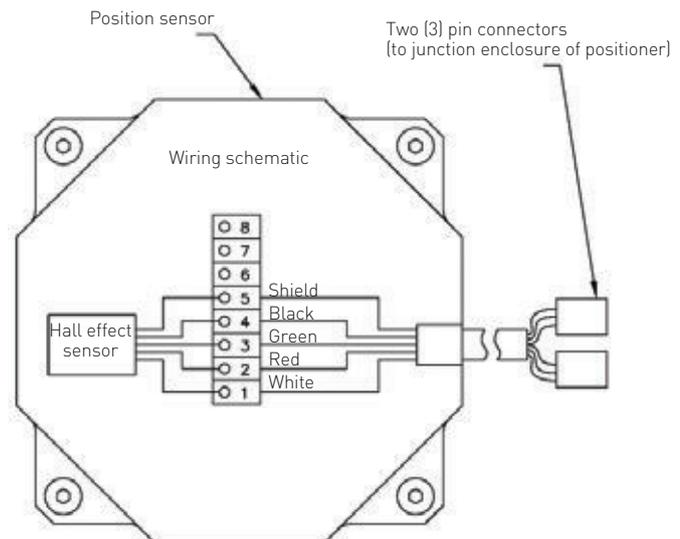

Figure 4-5
- 4.5.7 Wire the cable from junction enclosure to remote transmitter. See Figure 4-5.